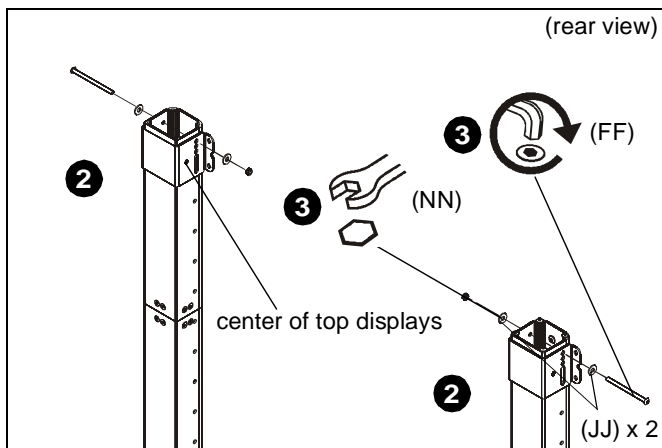

Figure 2
2. Place clamp brackets (P) on column add-ons (V) in the position of where the center of the top displays will be on the cart with the diamond on the brackets being placed at the exact center location. (See Figure 2)
3. Use 5/16-18 x 4 1/2" button head cap screw (FF), two 5/16" washers (JJ) and 5/16-18" lock nut (NN) to secure each clamp bracket (P) to column. (See Figure 2)